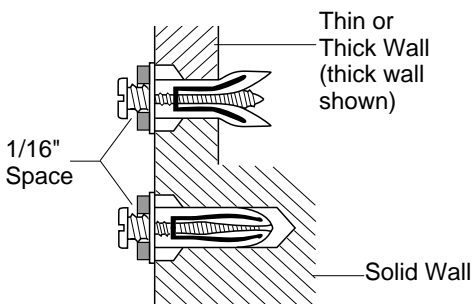

**Figure 6 - Folding Anchor**
2. Fold wall anchor (see Figure 6).